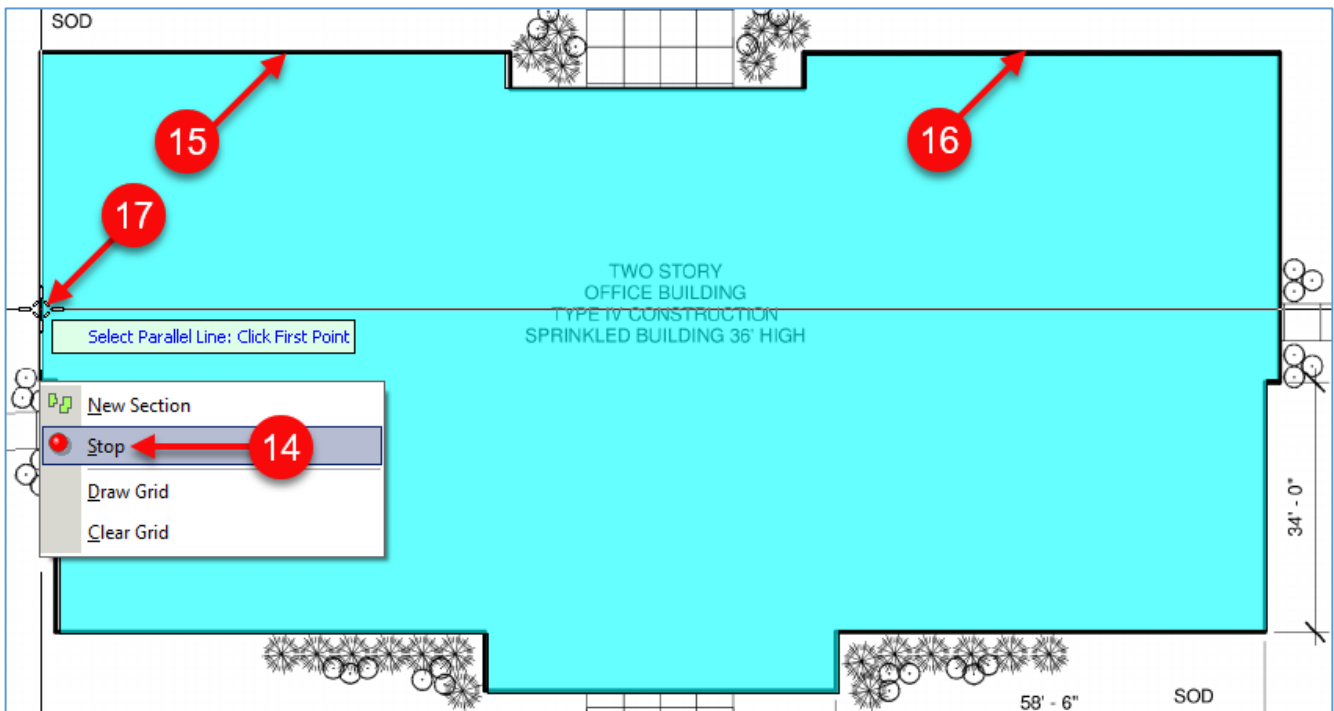

Figure 35-B
5. The grid now appears beginning at the start **Point** (Fig. 35-C).